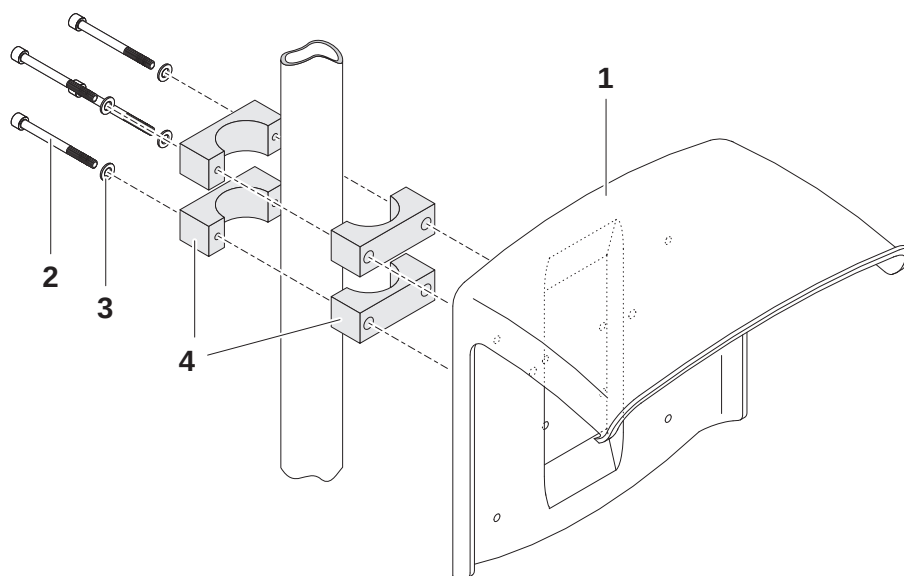

Fig. 3-15 Mounting the SSH/IQ sun shield on a mounting stand
| 1 | Screw the sun shield (pos. 1 in Fig. 3-15) with the four hexsocket head screws (pos. 2), the washers (pos. 3) and the clamps (pos. 4) at the required height on the mounting stand from the back. |